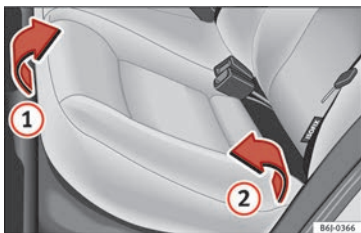
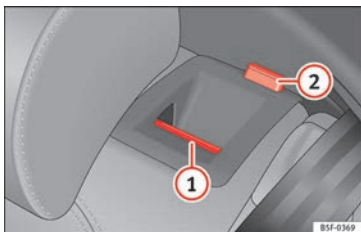

Fig. 131 Folding up the rear seat cushion.
Fig. 132 On the rear seat backrest: release catch ①; red mark ②.
- Pull the front edge of the seat cushion » **Fig. 131** ① upwards in the direction of the arrow.
- Lift the cushion ② forwards in the direction of the arrow.
- Push the unlock button » **Fig. 132** ① forwards and at the same time lift the backrest. The rear seat backrest is not engaged when the red marking of the button ② is visible.